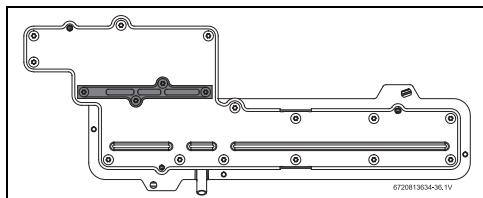

Fig. 51 Gas manifold
- ▶ Remove the four screws that retain the cover plate to the gas manifold, see fig. 51 (plate in grey color).